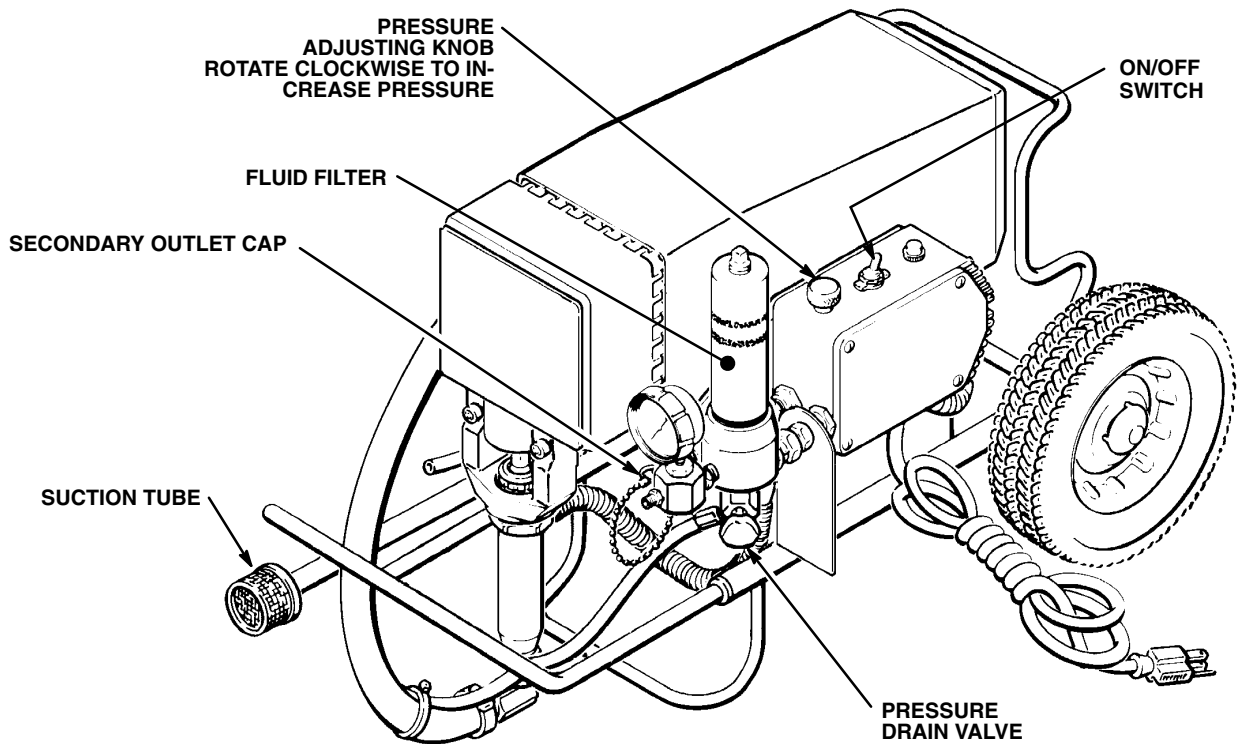

Fig 13-1
4. **Lower the pressure setting** by turning the pressure adjusting knob all the way counterclockwise. *See Fig 13-1.*